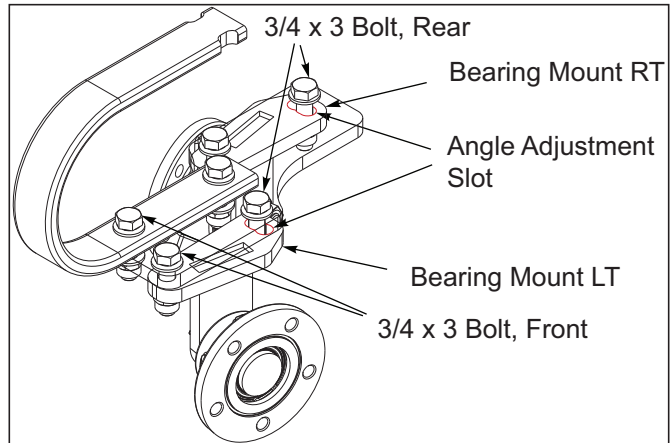

Figure 4-13: Individual Disc Angle Adjustment
5. Each bearing mount RT and LT can be adjusted to 3 different angle settings to allow more or less soil movement See Figure 4-13. To adjust them, loosen the front 3/4 x 3 bolt, and remove the rear 3/4 x 3 bolt to rotate the mount either direction. The discs are in the middle position when shipped from the factory. Ground speed and depth will both change how the finish looks, they will have to be adjusted accordingly.